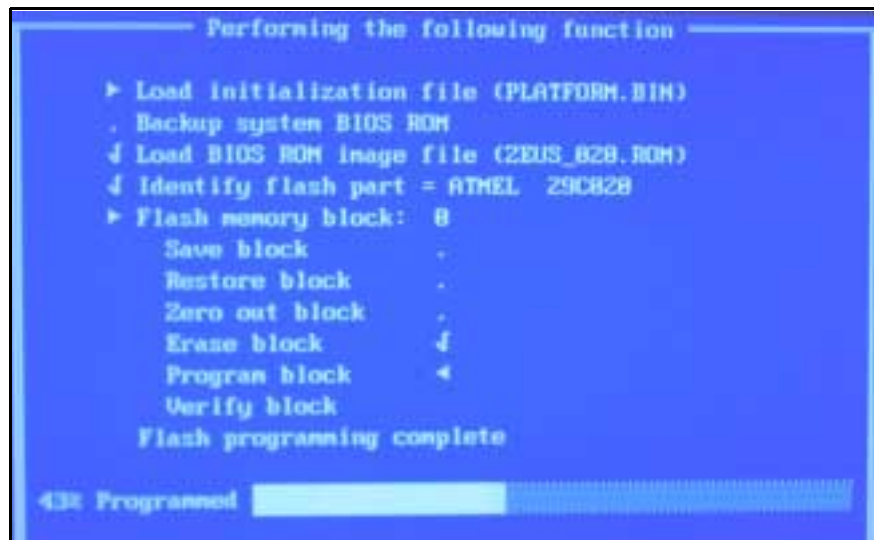

Figure 9-4 Phlash program
- 11) Verify that Phlash program begins loading new BIOS version (see Figure 9-4).